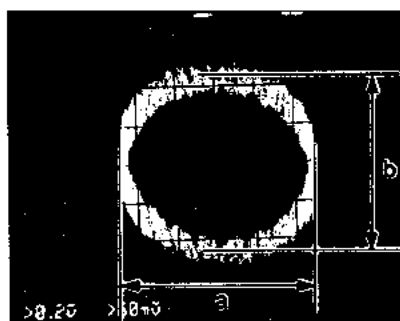

Fig. 1 Focus gain adjustment (95 deg)
4. Adjust on the oscilloscope so as to attain the status (a=b) shown in Fig. 1.
5. Adjust each RV so that phase difference is  $95 \pm 5$  deg (Fig. 1).